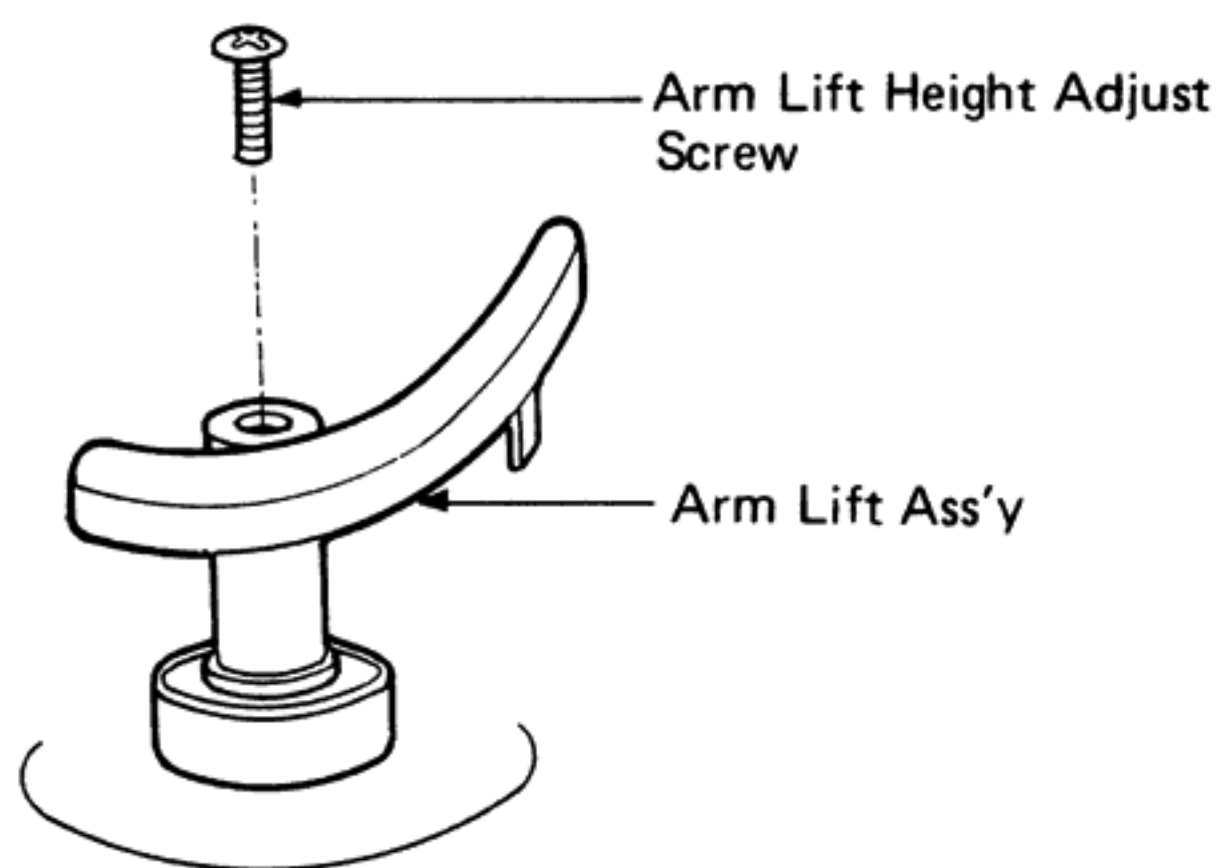

Fig. 1
- 1) Remove the arm lift height adjust screw, then take off the arm lift. (Fig. 1)